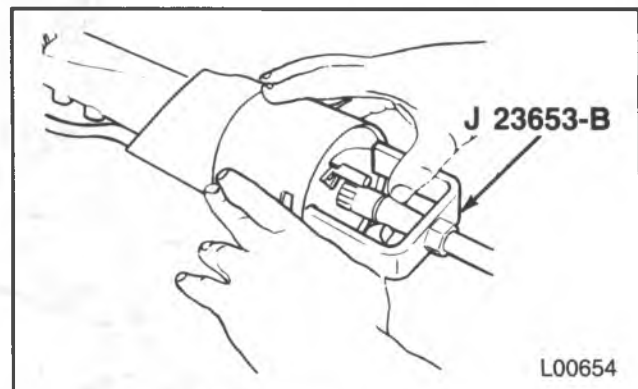

Figure 14 — Retaining Ring Installation
Install or Connect (Figure 14)
- Screw the center post of J 23653-B onto the steering shaft as far as it will go. Place a NEW retaining ring over the center post. Place the "C" bar over the center post and then compress the lock plate by turning the nut clockwise. Slide the new retaining ring down the tapered center post and into the shaft groove (figure 14). Remove J 23653-B.